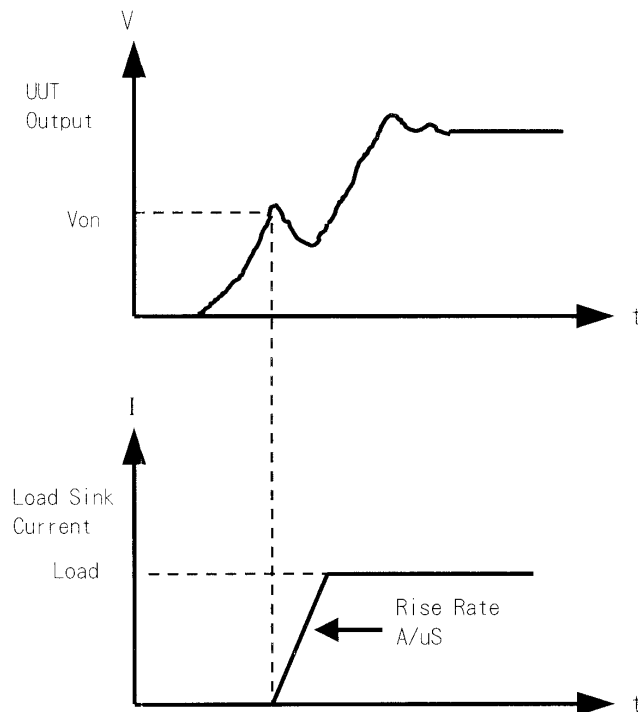
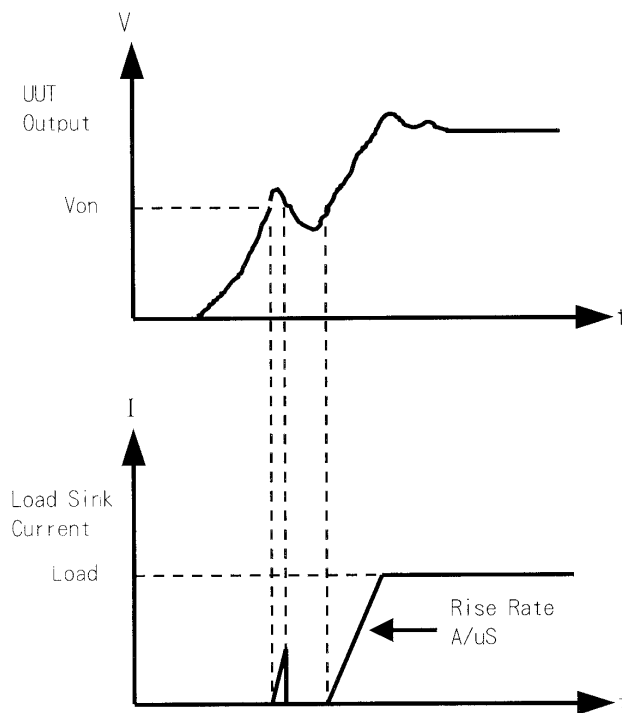

Figure 4-2 Von LATCH ON Current Waveform
Figure 4-3 Von LATCH OFF Current Waveform
**Set Von latch.** There are two operating modes for Von control. Von latch ON means that Load will sink current continuously when Von voltage is reached. Von latch OFF means that the load will stop sinking current when the UUT voltage is under the Von voltage. The default setting of Von latch is OFF. Figure 4-2 and Figure 4-3 show Von LATCH ON and OFF current waveform separately.